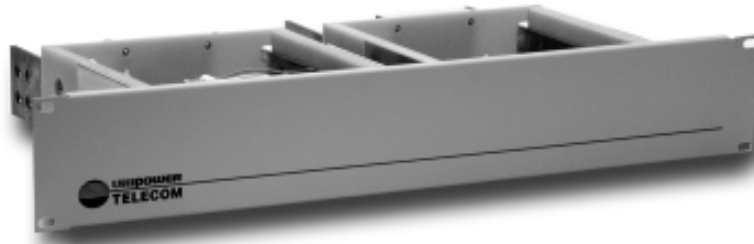

Figure 1. LVD400/600 Low-Voltage Disconnect Panel
- 1.3 Figure 1 shows the LVD400/600 Low-Voltage Disconnect Panel. The unit is only two mounting positions high, 3.5 inches, to minimize rack space. It can be specified for either a 19- or 23-inch relay rack mounting.